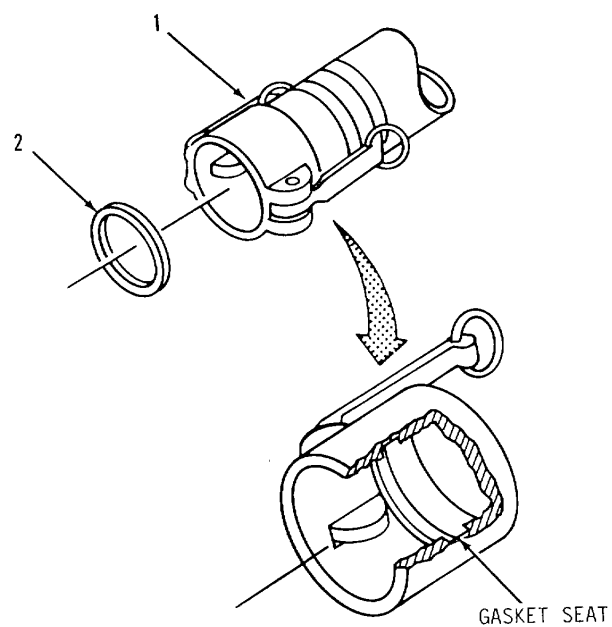

Figure 3-2. Quick Disconnect Repair
a. Removal. Refer to figure 3-2.
- (1) Disconnect female coupling (1) from water system (para 2-10c).
- (2) Pull gasket (2) from interior of female coupling (1).
b. Installation. Refer to figure 3-2.
- (1) Using clean wiping rag, remove grit, sand, and dirt from gasket seat inside female coupling (1).
- (2) Position replacement gasket (2) in female coupling (1).
- (3) Press gasket (2) into gasket seat inside female coupling (1). There will be no ripples or bumps in gasket material when gasket is properly installed.
- (4) Connect coupling (1) to water system (para. 2-10c).
- (5) Startup water system (para. 2-12c) and test coupling (1) for leaks.